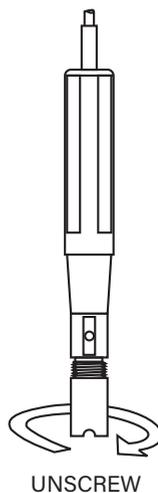

fig. 2
- Unscrew the membrane cap by turning it counterclockwise (see fig. 2).